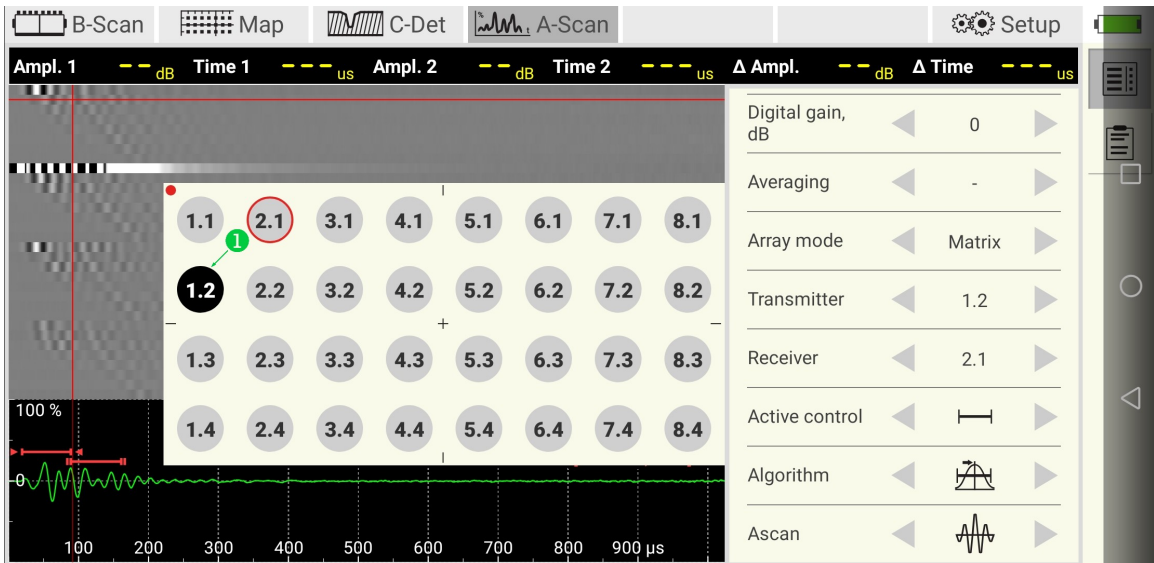

Figure 13: Selecting a transmitter in matrix mode
In the *matrix* mode, the operator can select rather a single transmitter than a group ① (Figure 13). Receiver selection flow does not change.